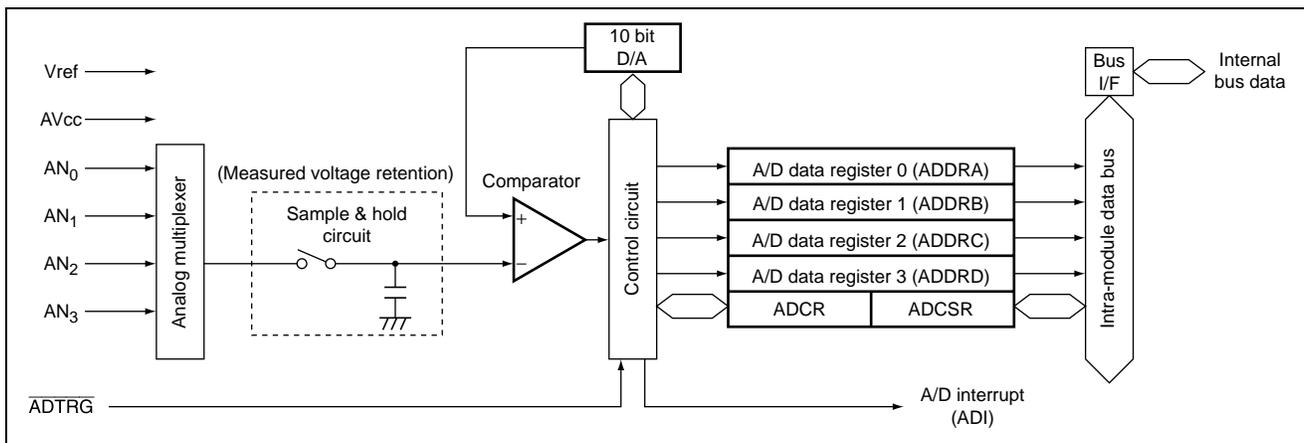

Figure 2 A/D Converter Block Diagram
1. The block diagram of 4-channel A/D conversion is shown in figure 2. This sample task uses the following functions of the A/D converter: